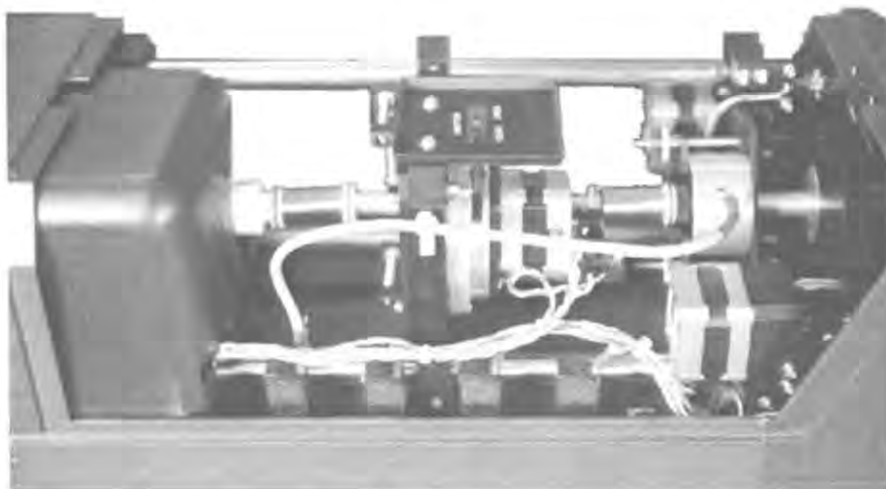

Figure 8-6. View of Rear of Laser Head Showing the Etalon Assembly Installed
17. Loosen the two knurled nuts of the etalon holder bracket. Place the etalon oven in the bracket and push it toward the back plate so it engages the transition tube. Hold the oven in place while tightening the two knurled nuts evenly (Figure 8-6). Run the cable along the inside of the head and plug it into the connector in the baseplate labeled 'ETALON OVEN'. Attach cable to clip on aperture mount. Route the cable so it does not touch the cover, any part of the tube, dust shield or stem when installed.
21. Carefully ease the forward aperture bellows dust shield from the cathode (rear) Brewster window towards the aperture assembly and onto the forward aperture seal tube (Figure 8-6).